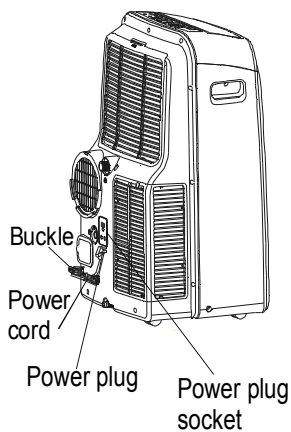

Fig.25
- Stop the appliance and unplug it, wrapped the cord and bundle it with the tape (Fig.25). Remove the batteries from the remote controller.